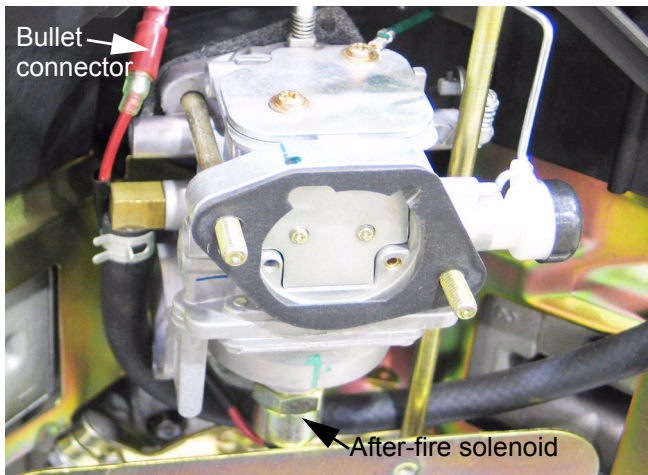

Figure 28.29
28.29. Engine harness - **after-fire solenoid**: The red wire connects the after-fire solenoid on the bottom of the carburetor. See Figure 28.29.